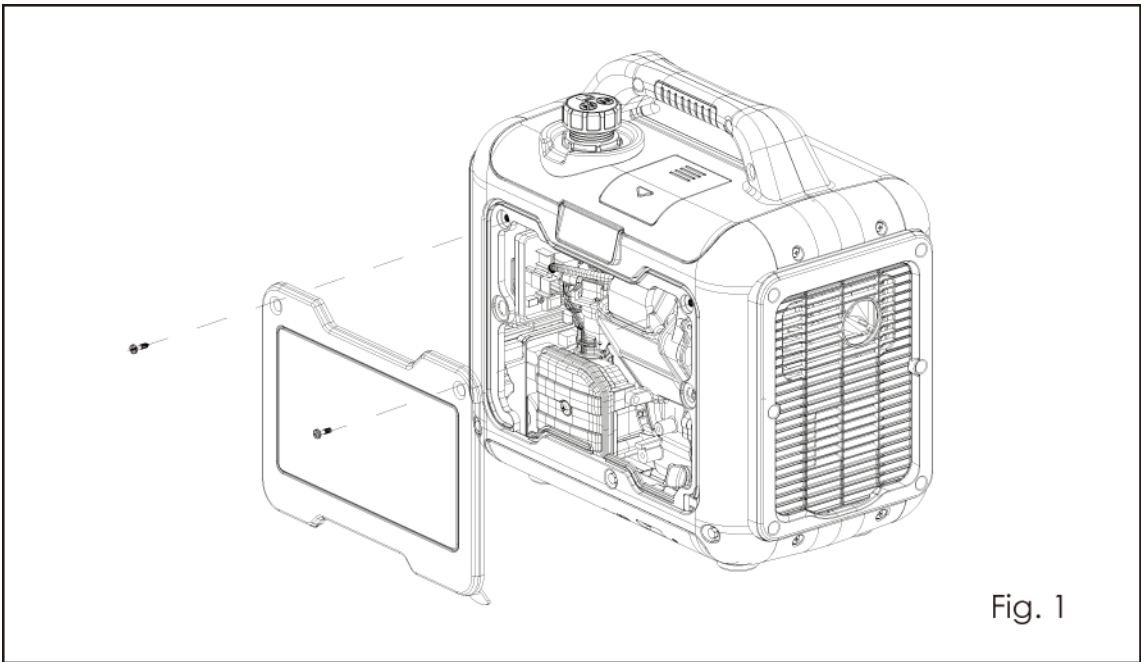

Fig. 1
- Remove the screws retaining the air filter cover (Fig. 1).
1. Rotate the choke control (Fig. 1) to the CHOKE position. If the engine is warm, move it to the RUN position (Fig. 4).
1. To turn the generator off, rotate the choke control (Fig. 1) to the OFF position. The machine will slow down then turn off.